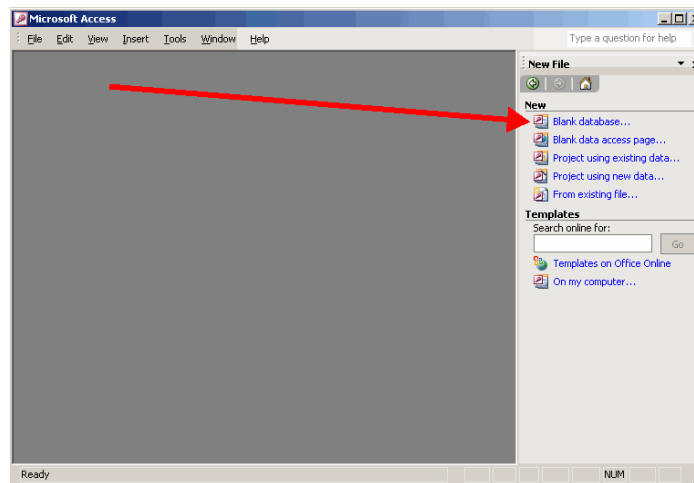

Figure 2-3
2.2.3. Choose *Blank Database* from the *New File* list. (Figure 2-3)